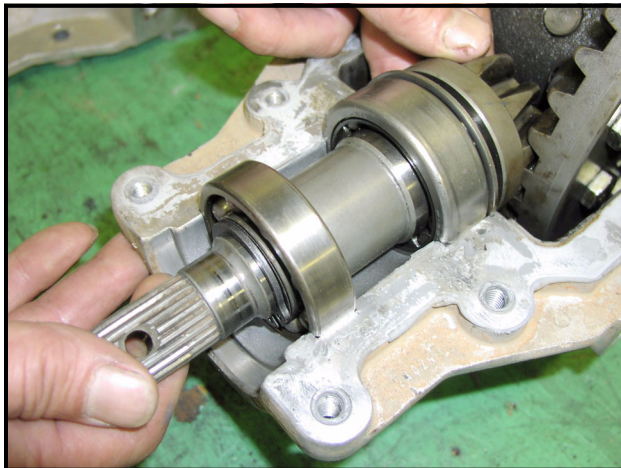

Figure 10-21 Place Pinion Gear In Housing
1. Position the pinion gear assembly into the differential housing, meshing the pinion gear with the ring gear (**Figure 10-21, Page 10-9**).